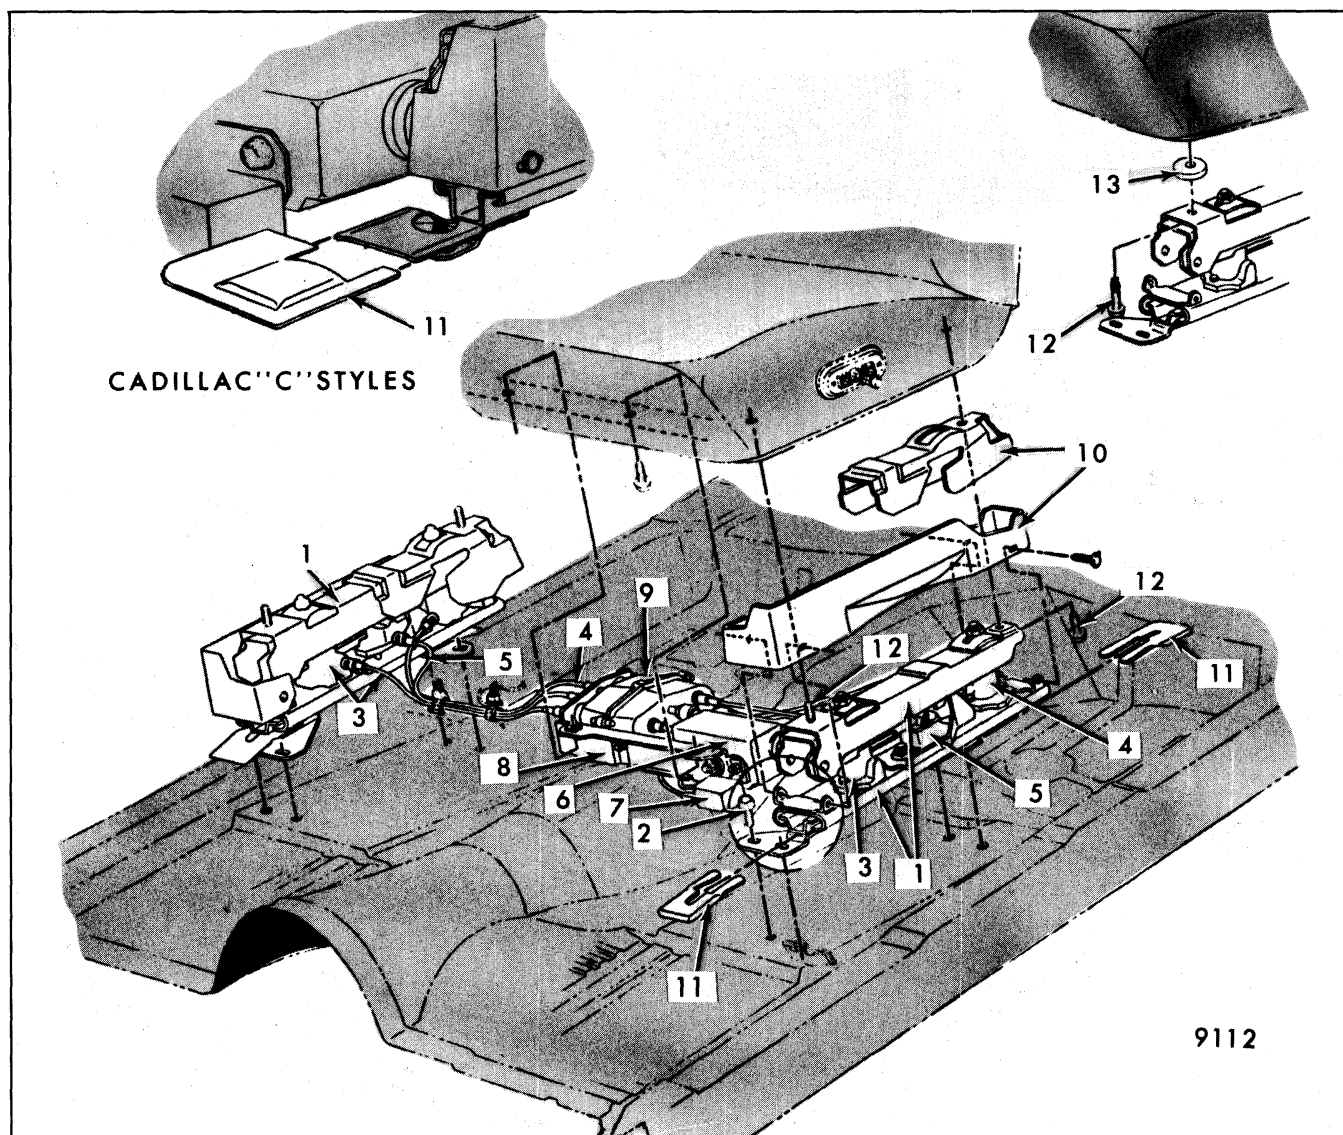

Fig. 9-14-Power Six-Way Full Width Seat and Adjusters ("B-C-E" Body Shown "A" Body Typical)
| 6. Fig. 9-14-Power Operated Six-Way Full Width Seat and Adjusters "B-C-E" Styles | 10. Fig. 9-18-"F" Body Bucket Seats and Adjusters |
2. Disconnect motor feed wires from motor control relay (Figs. 9-14 and 9-13).
3. On full width seats remove motor and transmission support-to-seat frame attaching bolts (Figs. 9-14 and 9-13).